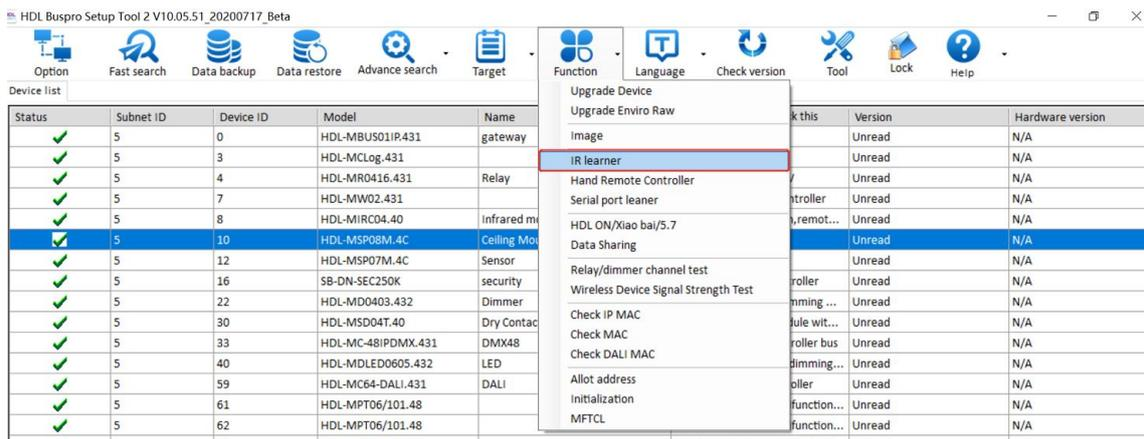

Figure 2-2
Step 1: In Buspro Software Tool 2, go to Function->IR learner (See Figure 2-2) or in Ceiling Mount 8-in-1 Sensor, select IR learner.